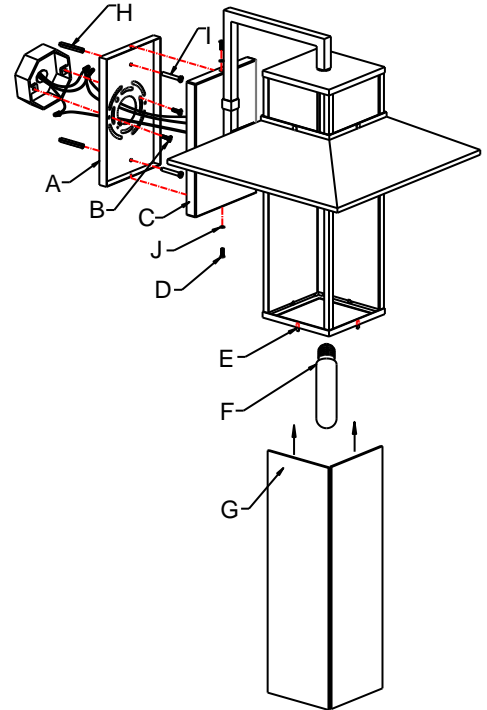

Fig. 2
## CONNECTING THE WIRES (Fig. 2)
7. Connect the electrical wires as shown in Fig. 2, making sure that all wire connectors are secured. If your outlet box has a ground wire (green or bare copper), connect the fixture's ground wire to it. Otherwise, connect the fixture's ground wire directly to the mounting plate (A) using the green screw provided. After the wires are connected, carefully tuck them inside the junction box.